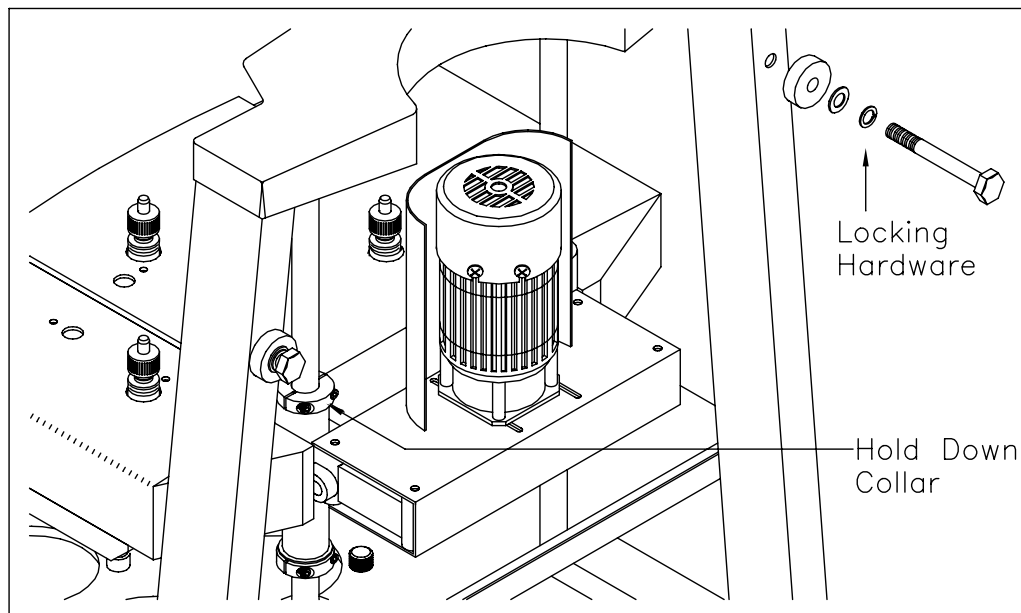

Figure 4-1: Removing the Locking Hardware and Holding Collar
2. Locate the locking hardware and hold down the collar on the back of the system, as shown in Figure 4-1. Remove the locking hardware on the left and right sides. Also remove the hold down collar on each guide rod using the hex wrench supplied in the supply kit. Save the locking hardware and the hold down collars only if the system will be shipped to another location in the future.